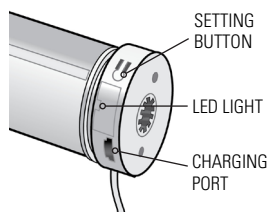

Figure 6: Motor End
- Insert the charging cord into the charging port on the end of the shade tube **[Figure 6]**, and plug the other end of the power adaptor into an outlet.
2. **Press & hold the Setting Button [Figure 6]** on the shade motor end until the shade jogs once; let go and you'll hear a long beep.
1. **Press & hold the Setting Button [Figure 6]** on the shade motor end until the shade jogs 4 times then beeps 3 times. This removes all programming.
Press & hold the Setting Button [Figure 6] on the shade motor end until the shade jogs 3 times.